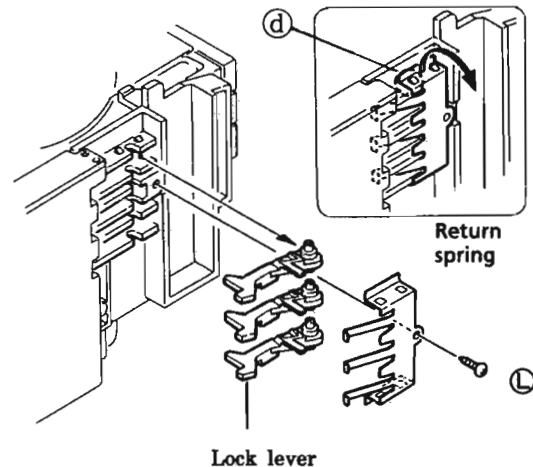

Fig.23
7. Remove a screw ⑥which secures the return spring and lock levers from the chassis ass'y.(See Fig. 23.)
8. Remove 2 pawls④ which slightly secure the return spring to remove it.